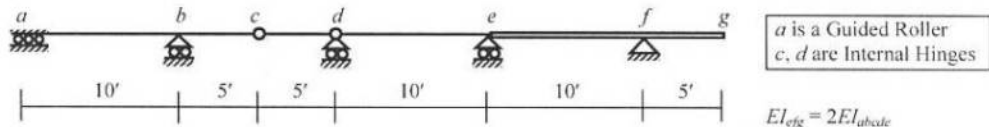

Fig. 9
10. For the beam $abcdefg$ shown in Fig. 9, draw the qualitative influence lines of support reactions R_a , R_c , shear forces $V_{b(l,ef)}$, $V_{b(l,gh)}$ and bending moments M_a , M_c , M_f .
11. For the beam $abcdefg$ shown in Fig. 9, calculate the maximum value of R_d (reaction at support d) for a uniformly distributed dead load of 1 k/ft, a moving uniformly distributed load of 0.5 k/ft and a moving concentrated load of 5 k.